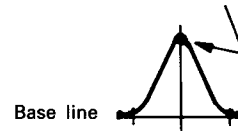

Fig.12
4. Feed in a weak signal to TP102 from the genescope. Adjust T101 for maximum gain and the waveform indicated in Fig. 12. If the center of the waveform cannot be lined up on the marker, adjust the right/left balance.